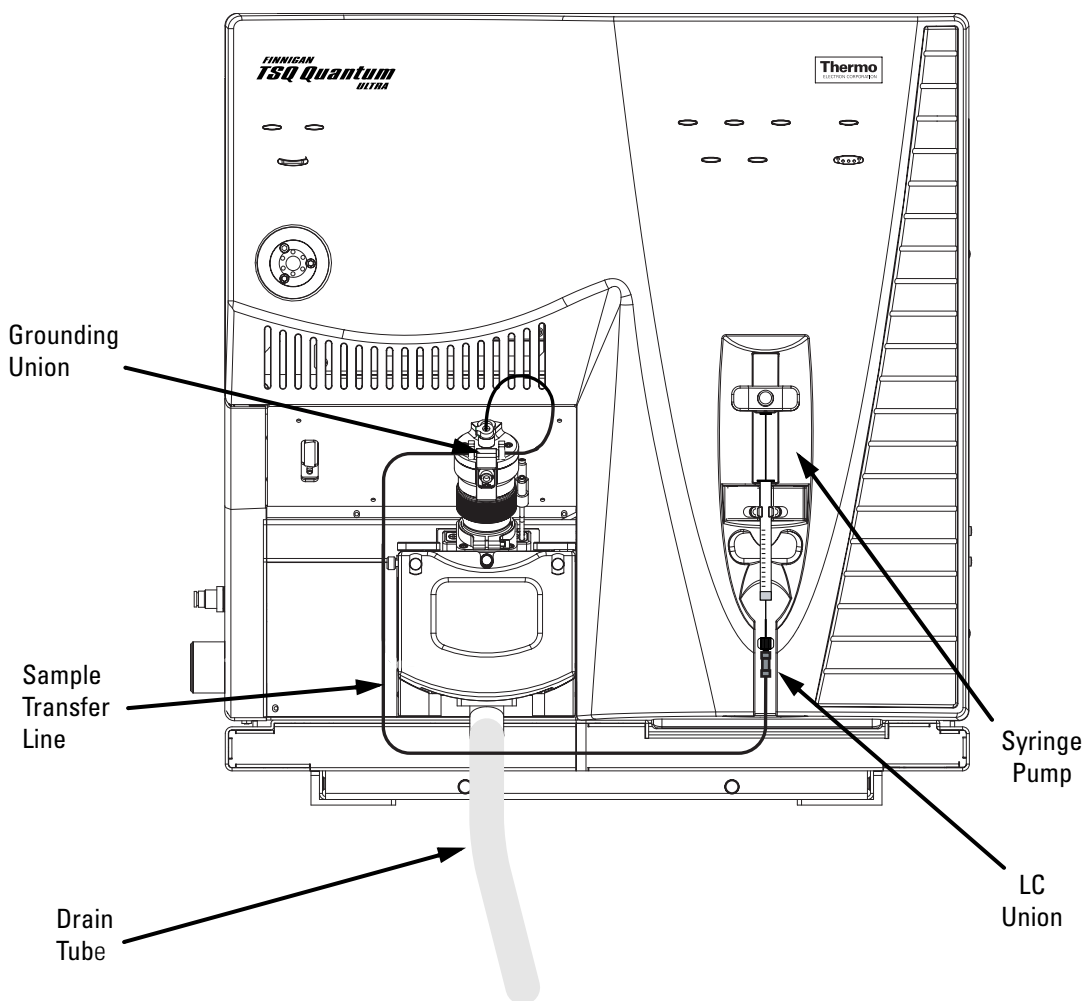

Figure 3-1. H-ESI/MS plumbing connections for sample introduction by syringe pump direct injection
The syringe and the syringe pump are located on the front panel of your TSQ Quantum Ultra mass spectrometer. The plumbing connections for H-ESI/MS sample introduction from the syringe pump are shown in Figure 3-1.
1. Install a sample transfer line between the LC union on the syringe adapter assembly and the grounding union on the H-ESI probe. See Figure 3-1.